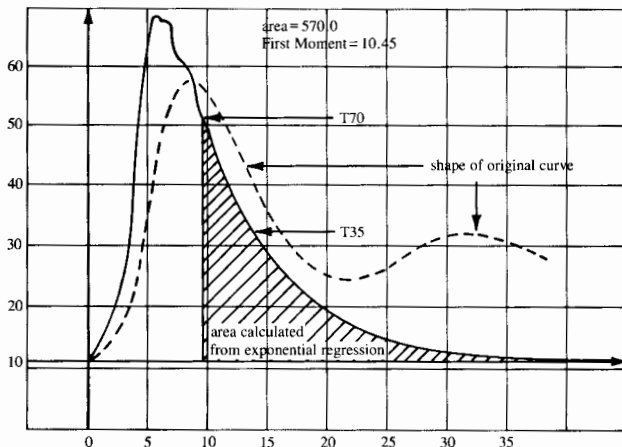

FIGURE 3. Curve after transformation
where  $C$  is input or *in vivo* value,  $C_0$  is output, and  $dC/dt$  is the slope about  $C_0$ . By applying (7) to each point computed, one restores the curve to its original or input shape (Fig. 3).